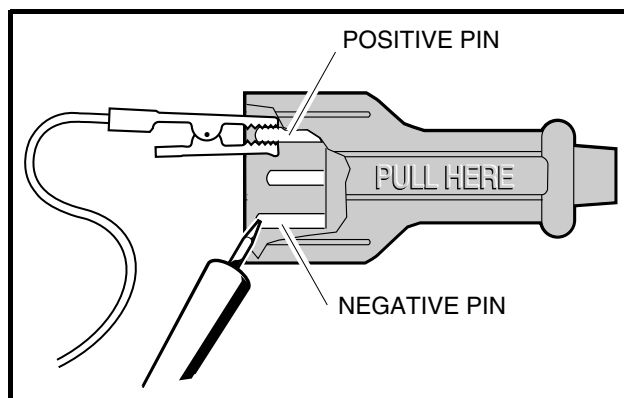

Figure 14-15 DC Plug Reverse Test Leads
2. Reverse the test leads and check the DC plug again (**Figure 14-15, Page 14-16**). The circuit should show continuity in only one direction.